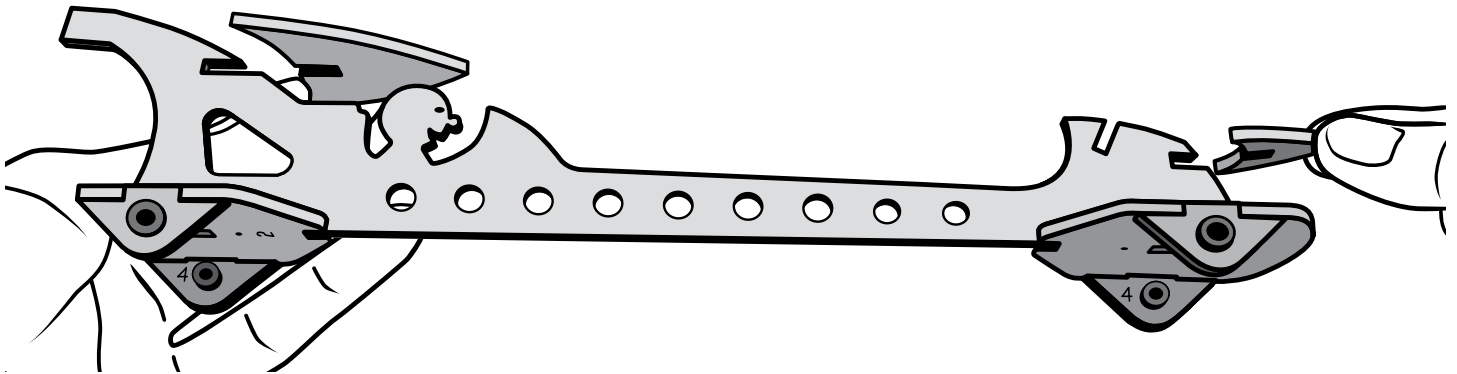

Figure 8
7. If you are building the racer with the two extra parts, glue them in now. Glue Part 6 in the notch in front of the racer as shown (Figure 8). Make sure the pointed end of Part 6 is toward the front of the car.
Glue Part 7 in the notch on the tall point rising at the back of the racer as shown (Figure 8). Again, make sure the pointed end of the part is facing the front of the car.